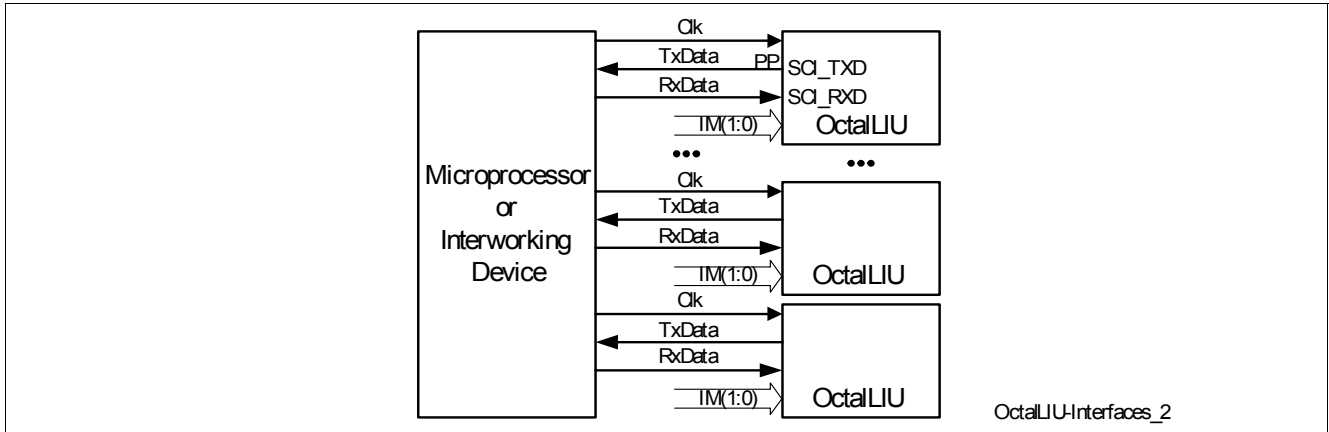
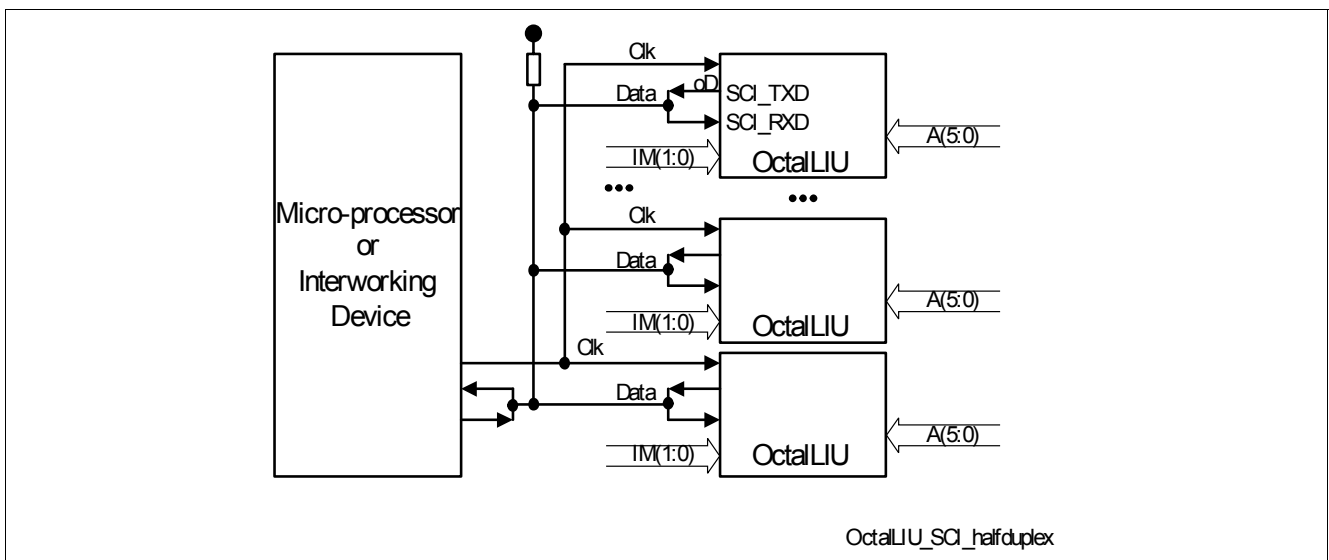

Figure 6 SCI Interface Application with Point To Point Connections
Figure 7 SCI Interface Application with Multipoint To Multipoint Connection
Figure 6 shows a first application using the SCI interfaces of some OctaLIU™s where point to point full duplex connections are realized between every OctaLIU™ and the micro controller. Here the data out pins of the SCI interfaces (SCI\_TXD) of the OctaLIU™s must be configured as push-pull (PP), see configuration register bit PP in Table 8.
Figure 7 shows an application with Multipoint to multipoint connections between the OctaLIU™s and the micro controller (half duplex). Here the data out pin of the SCI interfaces (SCI\_TXD) of all OctaLIU™s must be configured as an open Drain (oD), see configuration register bit PP in Table 8. The data out and data in pins (SCI\_RXD, SCI\_TXD) of each OctaLIU™ are connected together to form a common data line. Together with a common pull up resistor for the data line, all open Drain data out pins are building a wired And.
- Arbitration always made with LAPD (only SCI applications like in Figure 6 and Figure 7 are possible), bit ARB = '0B'.